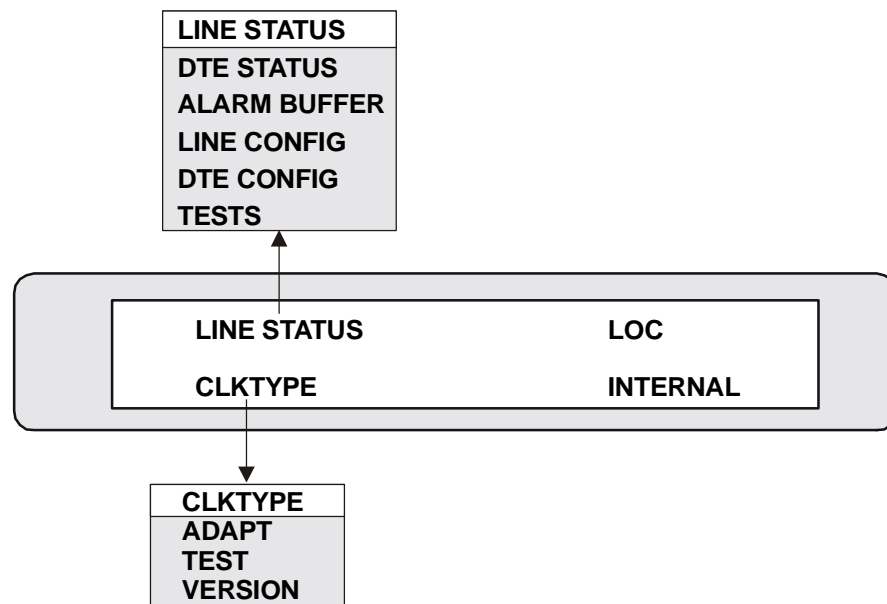
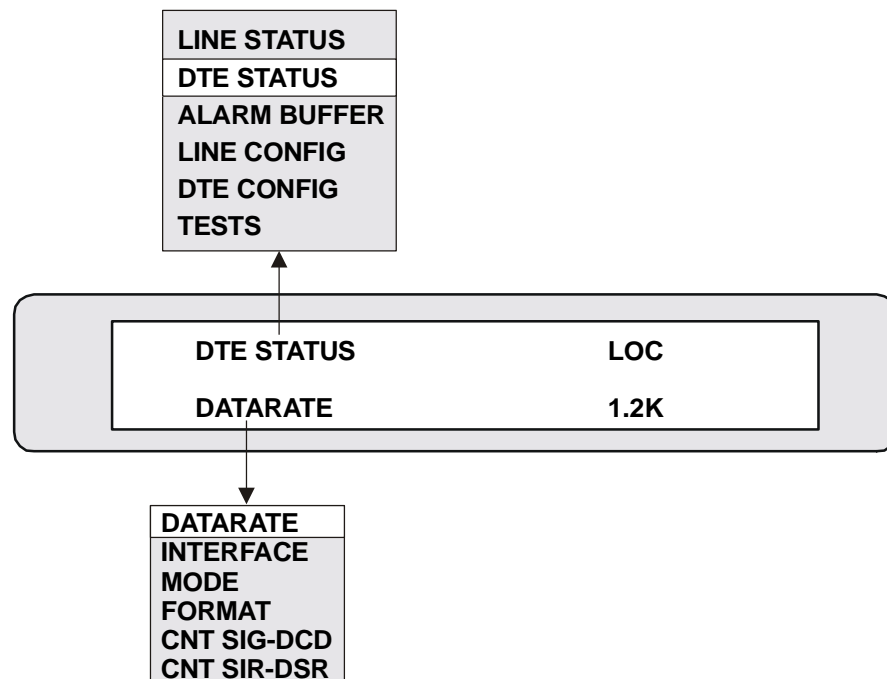

Figure 4-14. Displaying Line Status
Figure 4-15. Displaying DTE Status
6. Press the SCROLL button to scroll through the menu options, to one of the line/DTE parameters and its values (see Figure 4-14 or Figure 4-15).